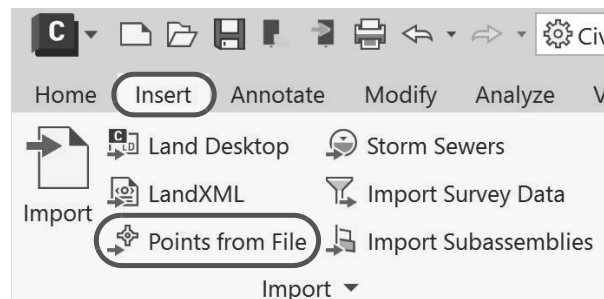

Figure 2–40
2. On the *Insert* tab, *Import* panel, select  (Points from File), as shown in Figure 2–40.
3. In the *Import Points* dialog box, do the following, as shown in Figure 2–41: